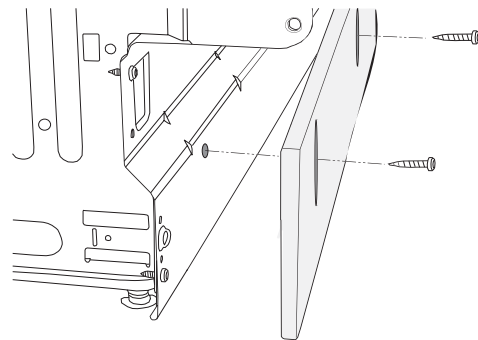

Figure 10.
To prevent kinking, pull on the drain hose and connection pipe (see Figure 10).
- (see Figure 10)